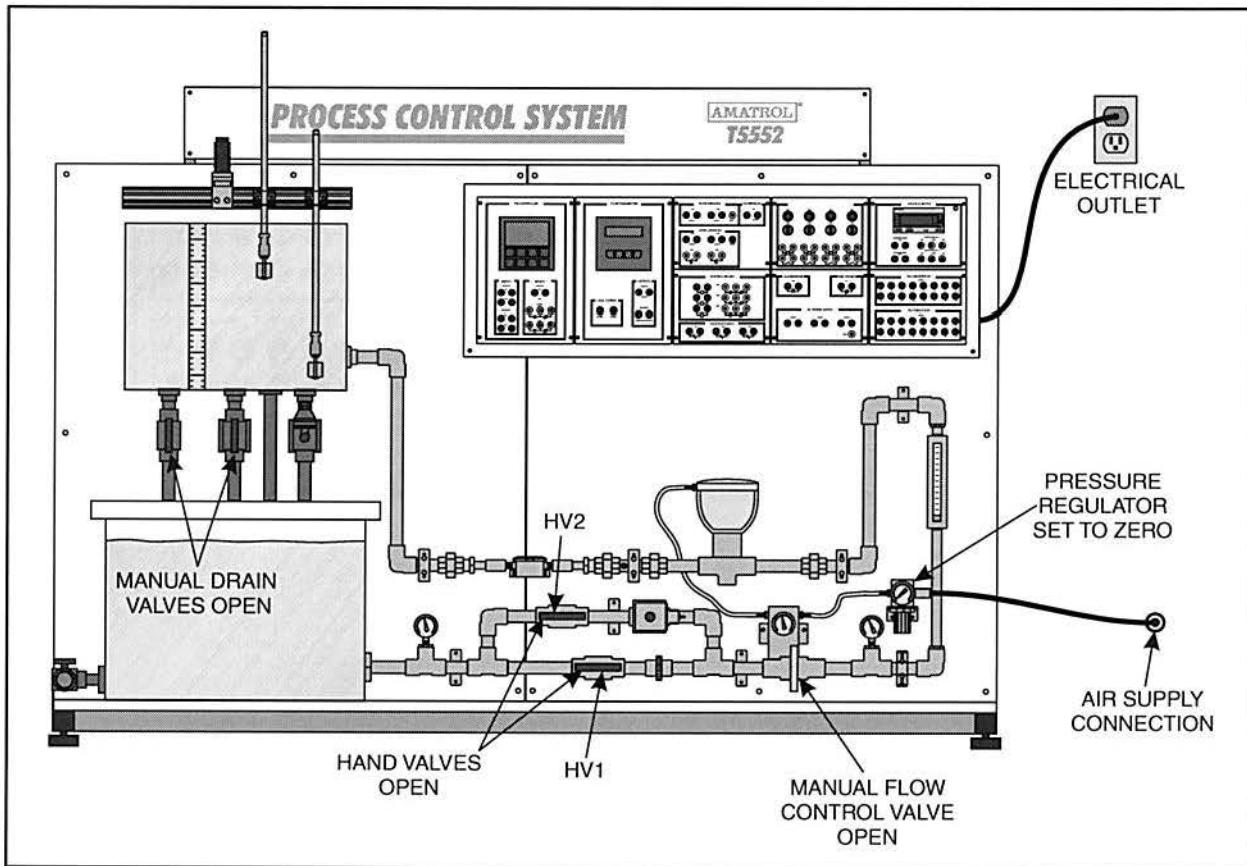

Figure 15. T5552 Setup
- 2. Perform the following substeps to set up the T5552, as shown in figure 15.